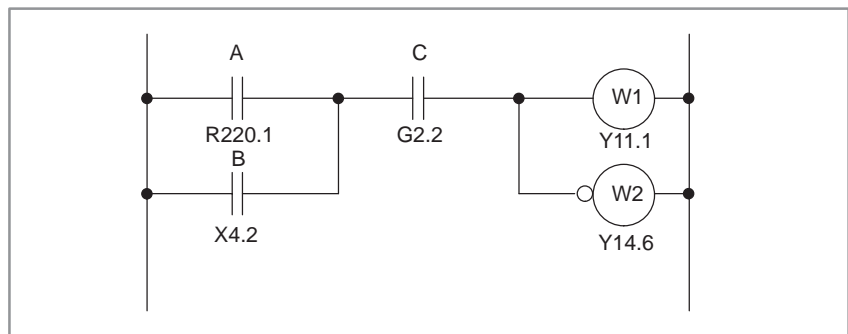

Fig. 4.1.4 Ladder diagram
(1) Format
(2) Inverts the results of logical operations, that is, the status of ST0 and outputs it to a specified address. Fig. 4.1.4 and Table 4.1.4 show an example on using the WRT.NOT instruction.
Table 4.1.4 Coding for Fig. 4.1.4